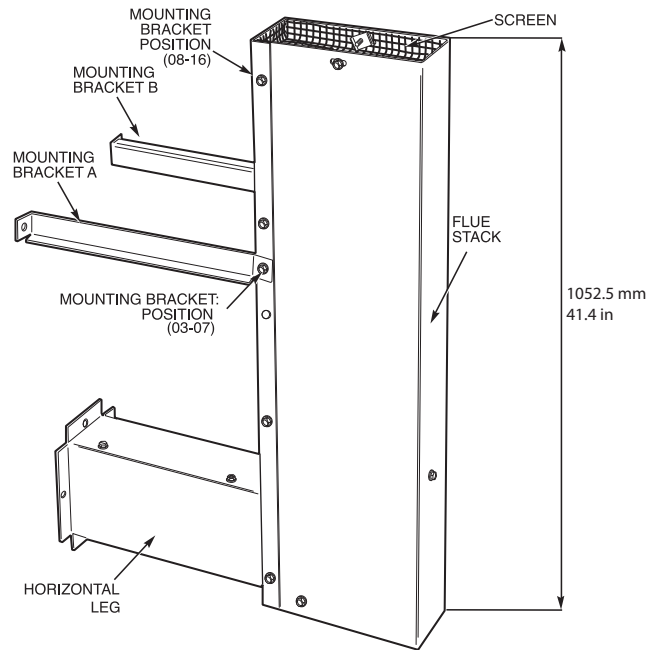

Fig. 2 - Flue Discharge Deflector Assembly
5. Attach mounting brackets to flue stack with screws pre-installed on flue stack. (See Fig. 2.)